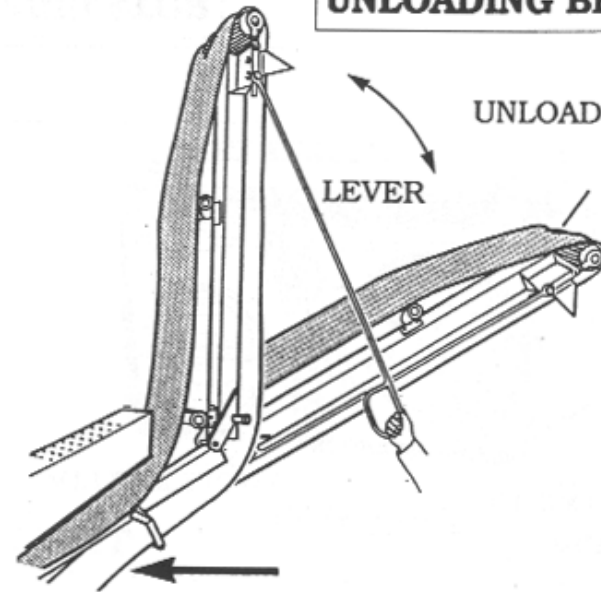

fig. 4
4. Place the unloading belt in the working position, slowly and carefully opening it out with the lever (see Fig.4).